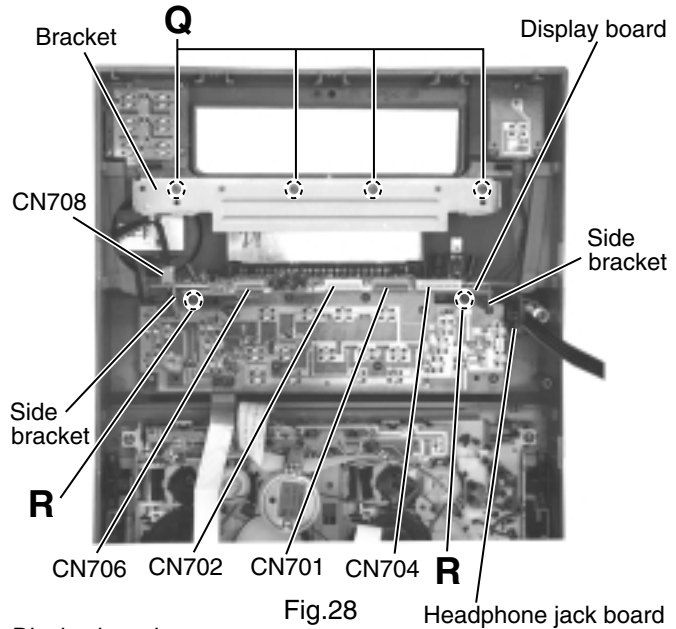

Fig.28 Headphone jack board
■ Removing the display board and the side brackets (See Fig.28 and 29)